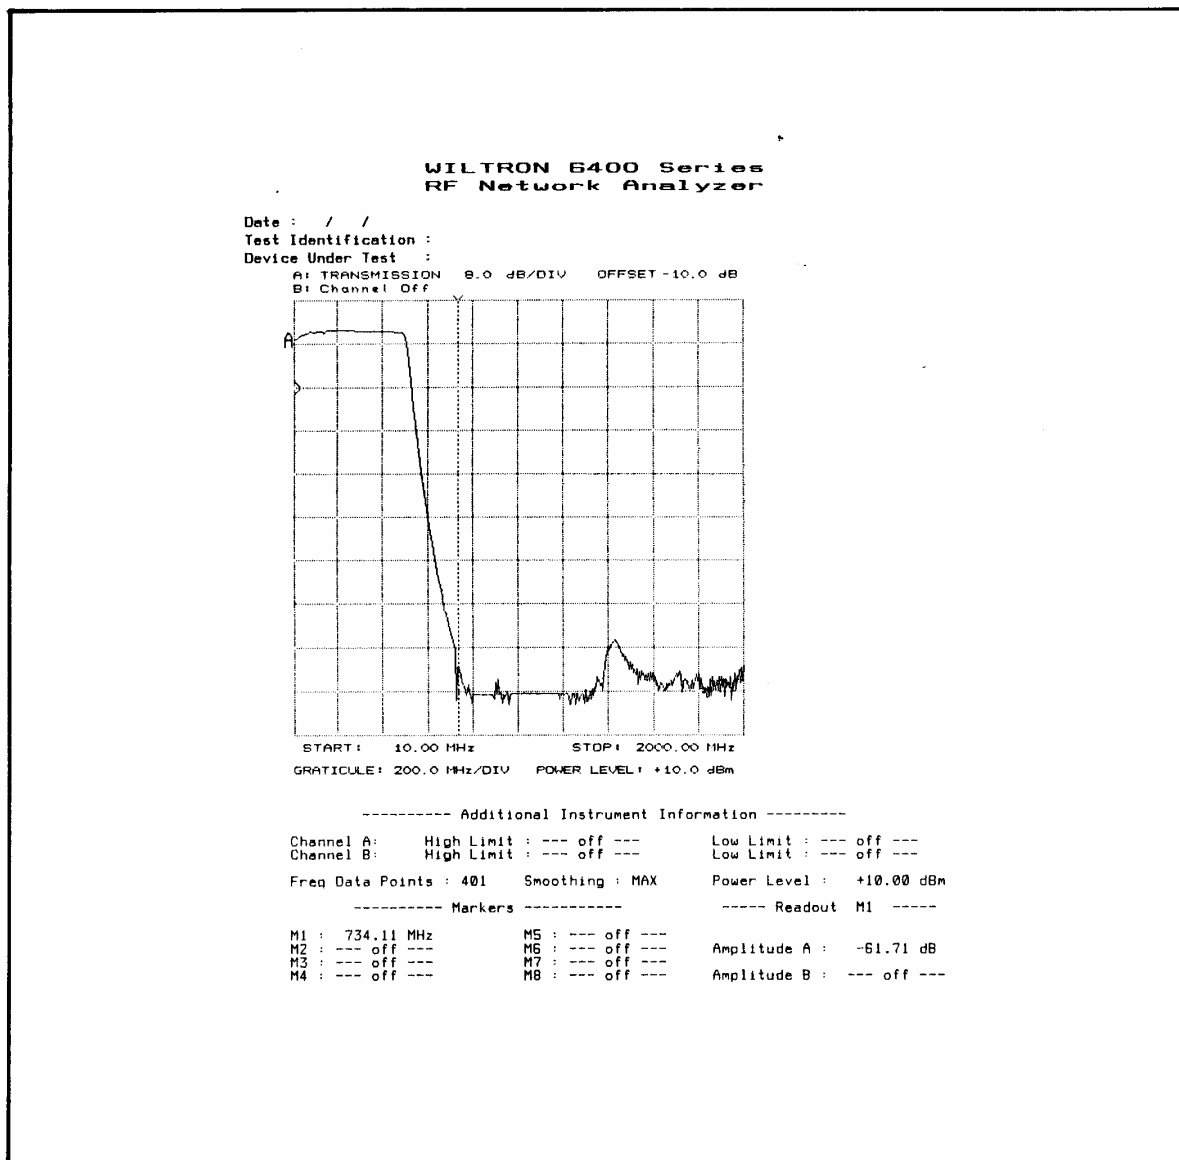

Figure 3-25. Hard-Copy Printout of Displayed Graphic
- (1) Press the NETWORK ANALYZER SMOOTHING key to light the MAX indicator.
- (2) Press the SOURCE FREQUENCY DATA POINTS key to light the 401 indicator.
- (3) Read the transmission loss as before and note that is much more steady. For the example, it now reads between -61 dB and -65 dB.
- (4) Return SMOOTHING to OFF and FREQUENCY DATA POINTS to 201.
- d. The printout should resemble the one shown in Figure 3-25.